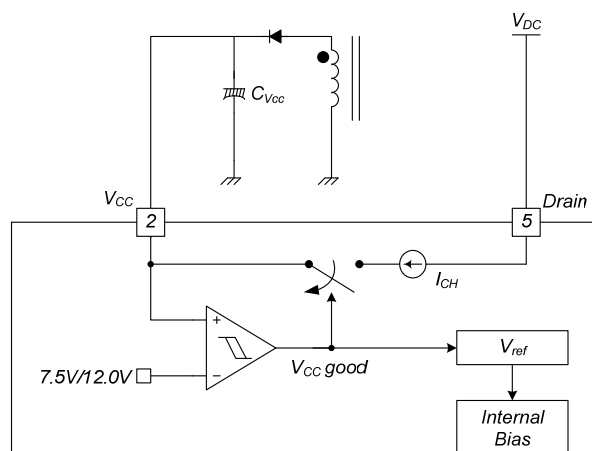

Figure 17. Startup Block
1. Startup: At startup, an internal high-voltage current source supplies the internal bias and charges the external capacitor (C_{VCC}) connected to the V_{CC} pin, as illustrated in Figure 17. When V_{CC} reaches 12V, the FSD146MRBN begins switching and the internal high-voltage current source is disabled. The FSD146MRBN continues normal switching operation and the power is supplied from the auxiliary transformer winding unless V_{CC} goes below the stop voltage of 7.5V.